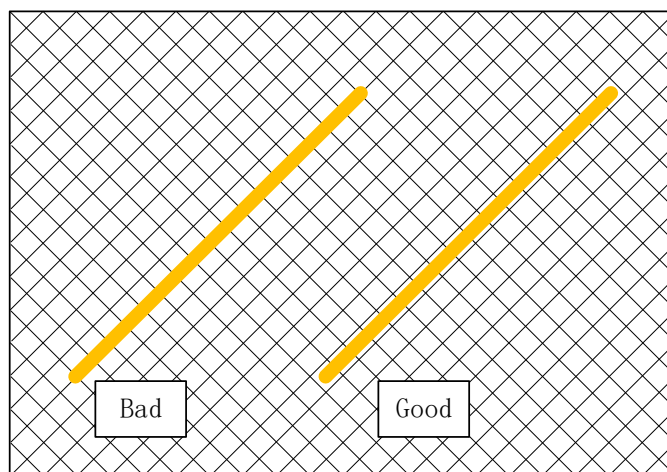

Figure 10-8 Grid detail
- The other layers of the PCB overlap area use a grid ground with the same specifications as the sensor buttons. One detail: When drawing the grid ground line, note that the "lines" that make up the grid cannot overlap with the trace of sensor, see Figure 10-8.